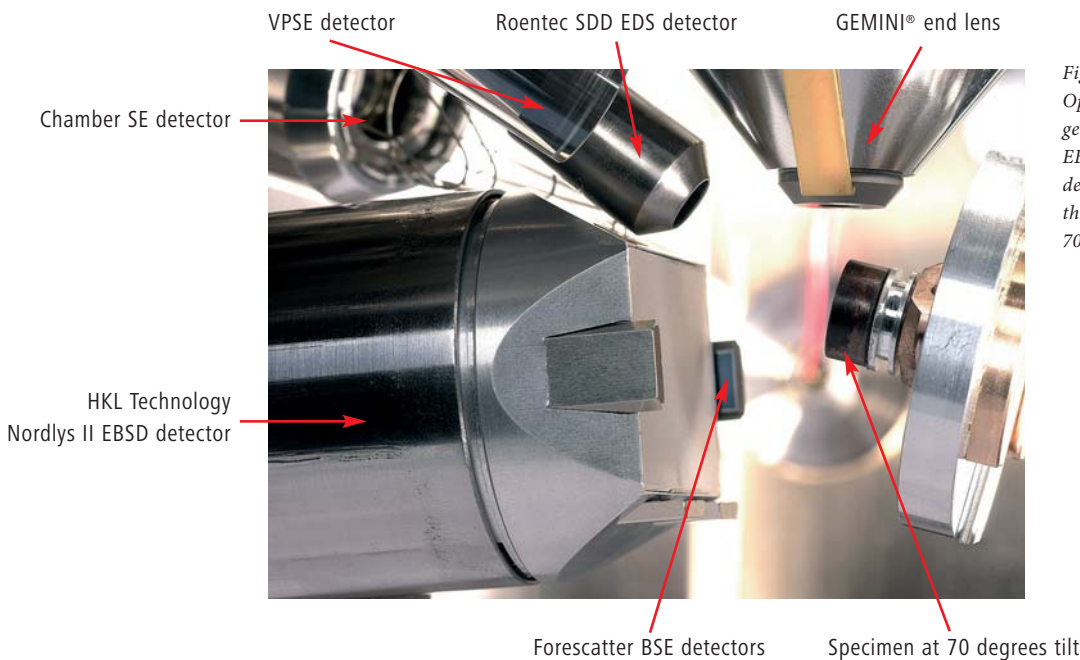

Fig. 4: Optimised EBSD geometry: EBSD and EDS detectors close to the specimen at 70 degrees tilt.
- Chamber geometry supplies an excellent platform for coplanar EBSD and EDS analysis at 8.5mm WD and specimen tilt of 70°, see fig. 4